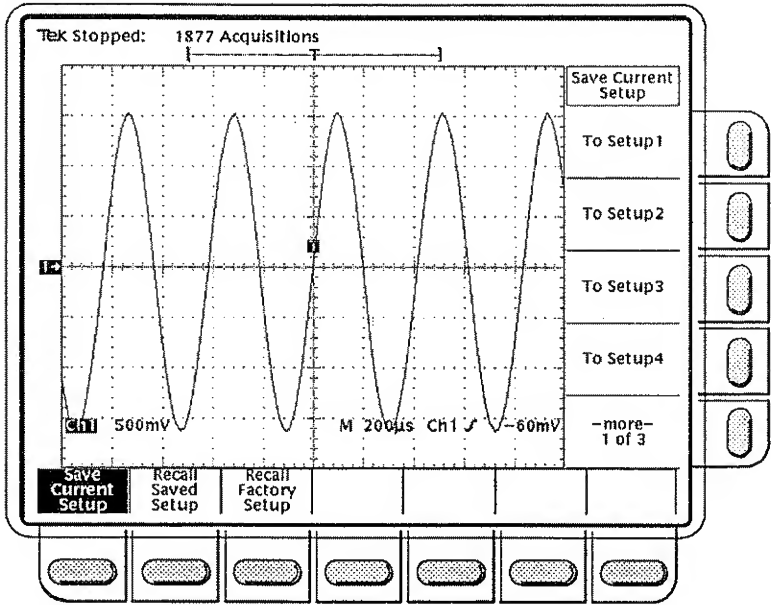

Figure 3-58: Save/Recall Setup Menu
- ☐ **Step 1:** Press the save/recall **SETUP** button to call up the Save/Recall Setup menu (Figure 3-58).